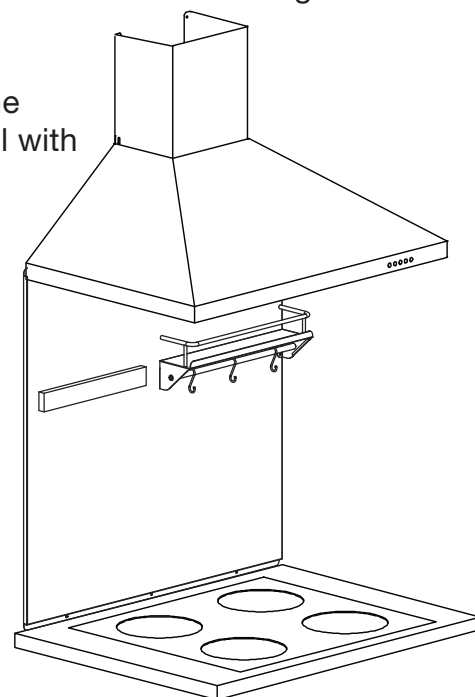

Figure 5
9. Install the hood (see Figure 5).